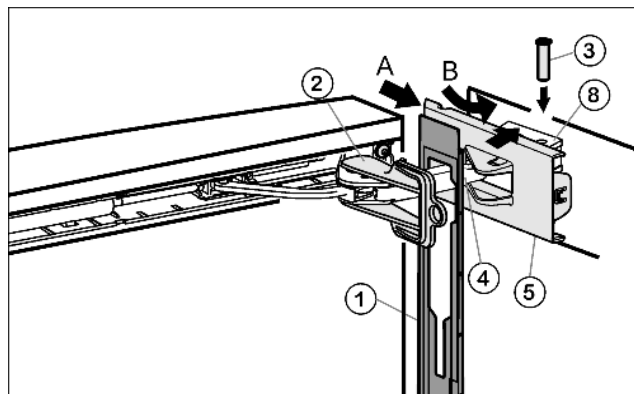

Fig. 26
- Hook panel Fig. 26 (1) into the damper bracket Fig. 26 (4) such that the detent hooks are pointing inwards and the front side is facing the appliance.
- Push on cover Fig. 26 (5) from the outside (A) and pivot over the bearing part Fig. 26 (8) (B).
- Place cover Fig. 26 (5) on top and allow to snap into place until the first notch.
- Pull damper bracket Fig. 26 (4) towards bearing part and insert bolt Fig. 26 (3) from above such that the square is resting in the recess.
- Now snap cover Fig. 26 (5) completely into place on the bearing part Fig. 26 (8).
- Remove locking device Fig. 26 (2) by twisting it.
- Snap panel Fig. 26 (1) into place on the door.